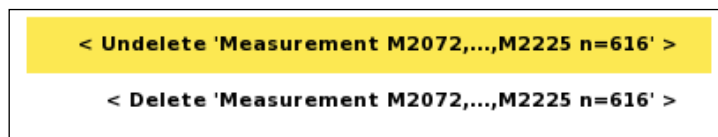

Figure 66 Undelete/Delete data points Option menu
- Highlight “<Undelete ‘Measurements Mxxx,...,Mxxx n=xxx’>” (Mxxxx represents a measurement id) (Figure 66)